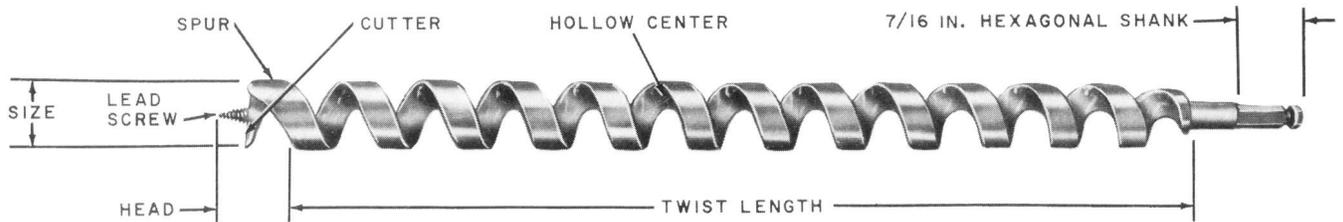

Fig. 6 — C Power Bit
2.16 The C power bit (Fig. 6) consists of a hollow center twist provided with a head containing a single spur, a single cutter, and a lead screw, and is provided with a 7/16-inch